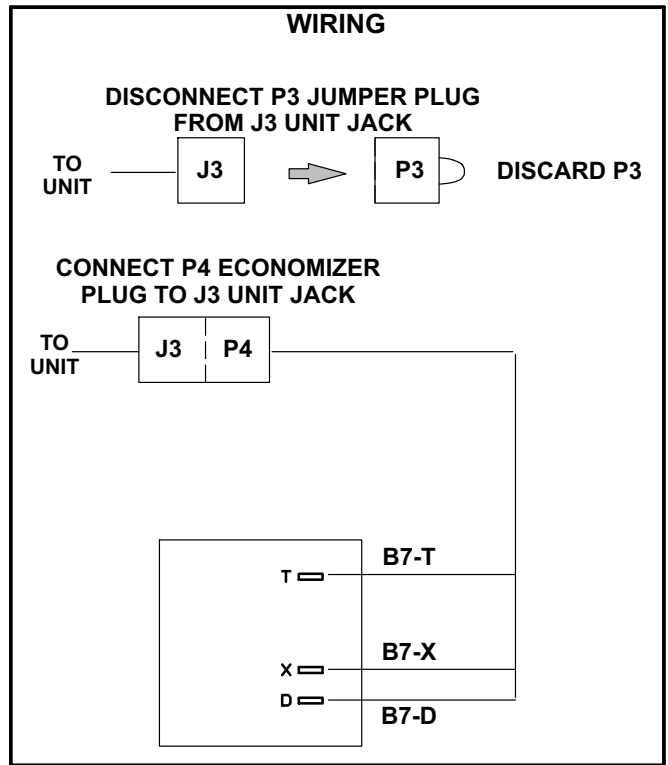

FIGURE 4
- 6- Connect three harness wires to OAD damper motor. See figure 4.